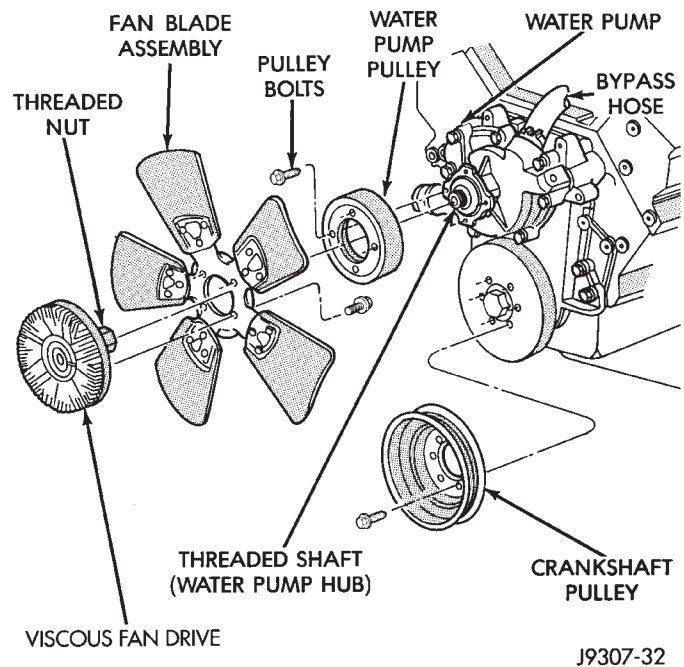

Fig. 50 Fan Blade/Viscous Fan Drive—5.2L Engine
- (1) Disconnect negative battery cable from battery.
- (2) The thermal Viscous Fan Drive/Fan Blade Assembly is attached (threaded) to water pump hub shaft (Fig. 50). Remove fan blade/viscous fan drive assembly from water pump by turning mounting nut counterclockwise as viewed from front. Threads on viscous fan drive are **RIGHT HAND**. A Snap-On 36 MM Fan Wrench (number SP346 from Snap-On Cummins Diesel Tool Set number 2017DSP) can be used. Place a bar or screwdriver between water pump pulley bolts (Fig. 50) to prevent pulley from rotating.
Do not unbolt fan blade assembly (Fig. 50) from viscous fan drive at this time.
CAUTION: Do not remove water pump pulley-to-water pump bolts (Fig. 50). This pulley is under spring tension.
- (5) Remove four bolts securing fan blade assembly to viscous fan drive (Fig. 50).
- (1) Install fan blade assembly to viscous fan drive. Tighten bolts (Fig. 50) to 23 N•m (17 ft. lbs.) torque.
- (2) Position fan shroud and fan blade/viscous fan drive assembly to vehicle as a complete unit.
- (3) Position fan shroud to radiator. Be sure the alignment tabs at the lower part of shroud are placed into the slots near lower part of radiator. Install and tighten the two fan shroud-to-upper crossmember mounting nuts.